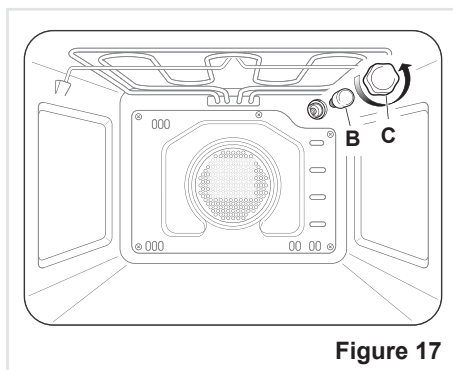

Figure 17
- Unscrew the protective cover “C” (fig. 17).